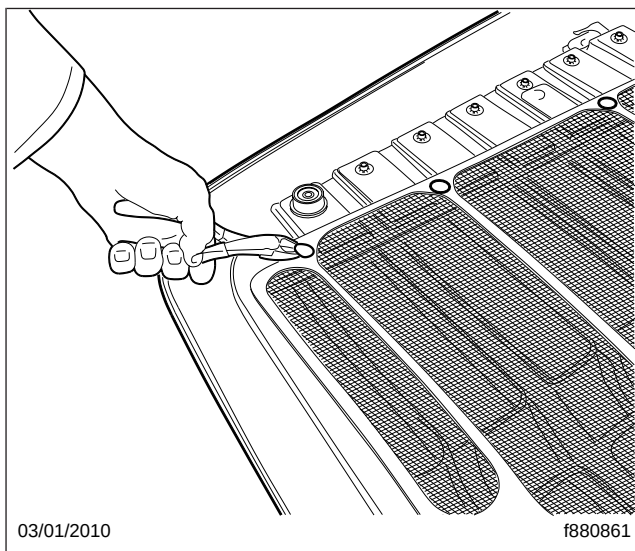

Fig. 1, Removing Nylon Retainers
4. Using wire cutters, cut the heads off the nylon retainers that attach the bug screen to the grille. See Fig. 1.